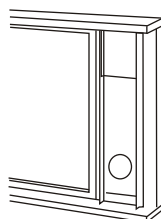

Fig.16
3. Cut the foam seal(adhesive type) to the proper length and attach it on the top of the window. Shown as in Fig.16.